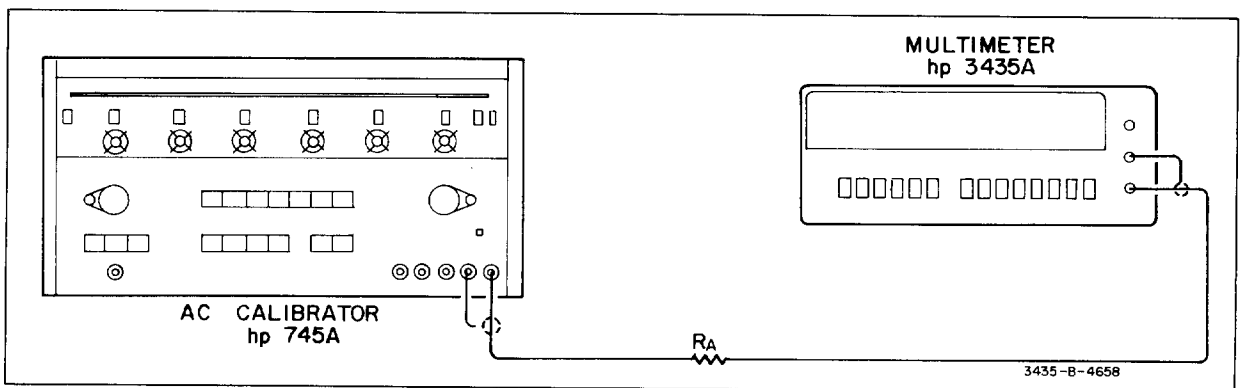

Figure 5-3. AC Ammeter Accuracy Test 200  $\mu$ A thru 20 mA Range.
a. Connect the equipment as shown in Figure 5-3 using the decade resistor box to select the value of  $R_A$ . Set the